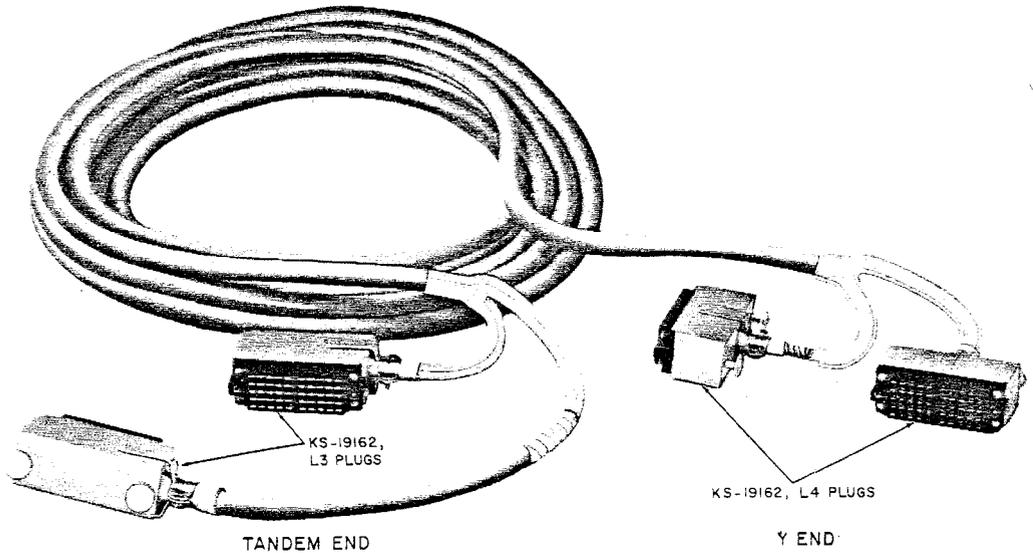

Fig. 7—P100A Cord
5.01 The P100A and P100B cords are illustrated in Fig. 7 and 8. The cords are not supplied with the test connectors, but must be ordered separately.